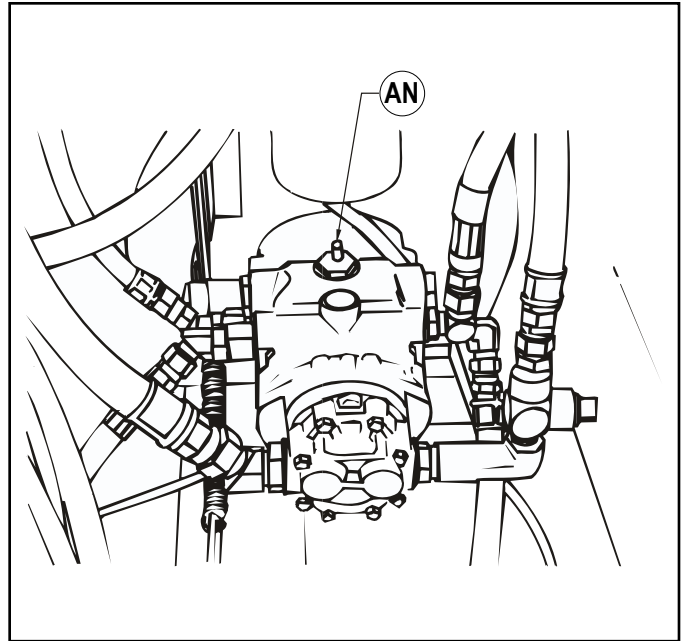

FIGURE 21
### TOWING INSTRUCTIONS (SEE FIGURE 21)
1. Locate Tow Control shaft Extension (**AN**) as shown in Figure 21. (See arrow)